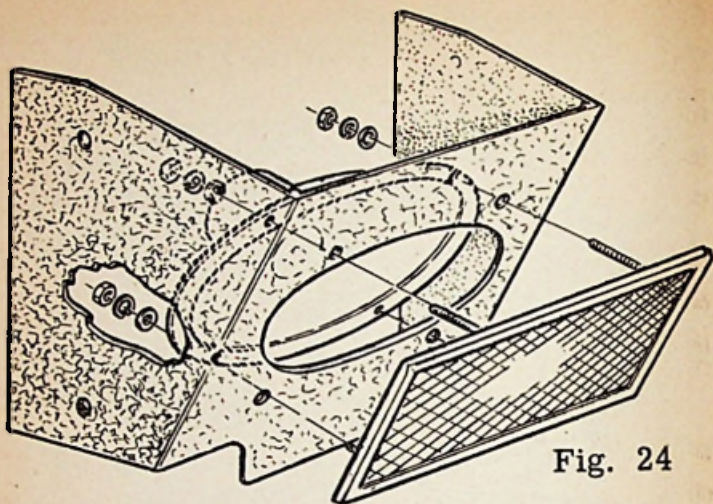

Fig. 24
- (1) Assemble speaker and bezel to speaker housing with 4BA fixings. See Fig. 24.
- (2) Connect speaker lead to speaker and radio.
- (3) Route battery lead through main wiring harness grommet in bulk head and connect to A. 1 terminal on the regulator box.
- (4) Connect battery and aerial leads to radio.
- (5) Switch on radio. Tune to a weak signal on medium wave, 1.2 mc/s (250 metres) approximately and adjust aerial trimmer for maximum volume.